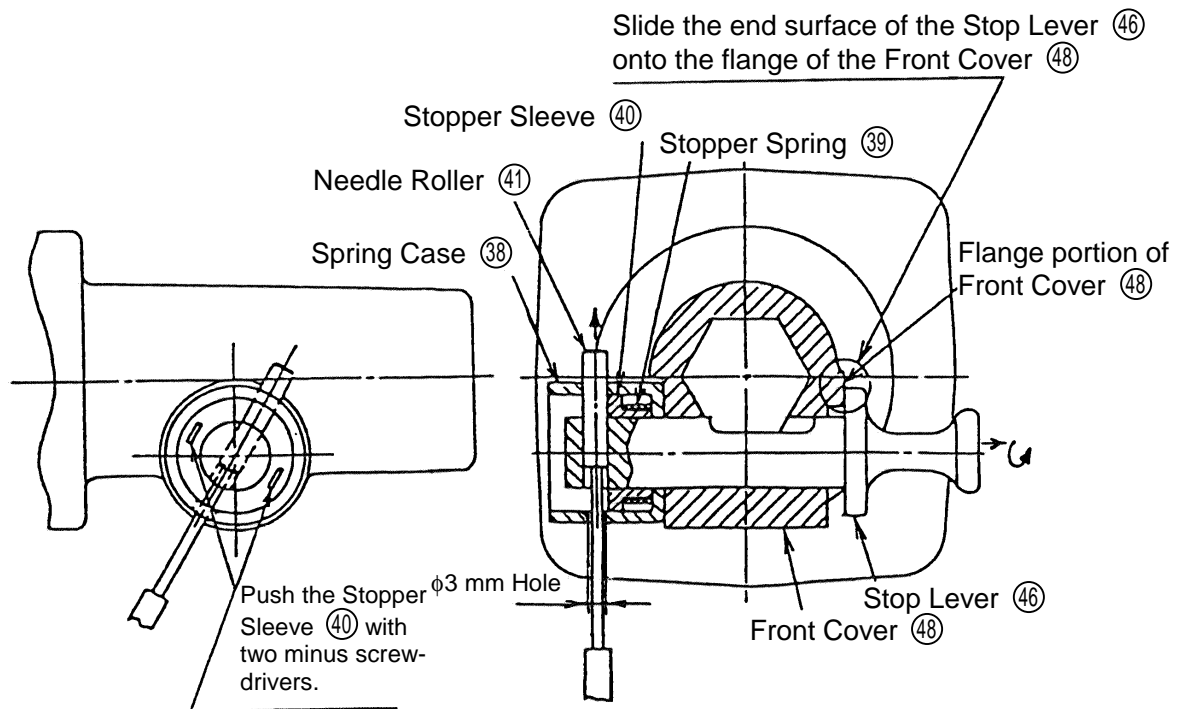
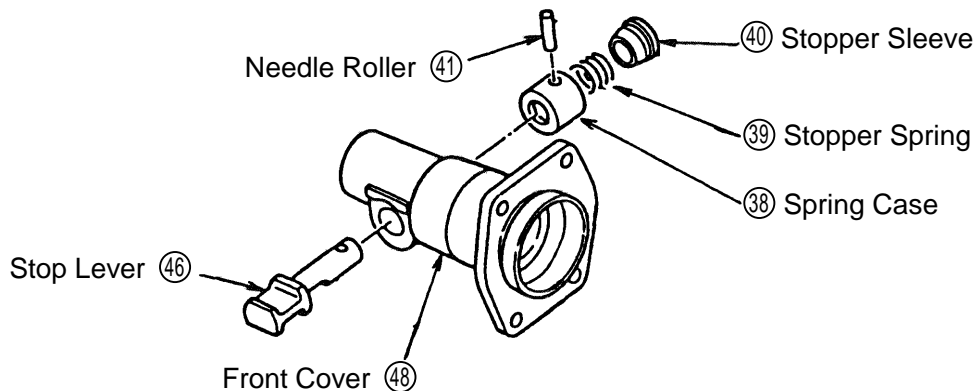

Fig. 6
Fig. 8
Disassembly procedures are illustrated in Fig. 6. Pull the Stop Lever (46) outward in the direction indicated by the arrow, and turn it slightly so that its end surface comes to rest on the flange portion of the Front Cover (48). Next, turn the Spring Case (38) so that the hole of the Spring Case (38) is aligned with the Needle Roller (41). Push in the Stopper Sleeve (40) with two minus screwdrivers to compress the Stopper Spring (39), and insert a steel rod (less than 3 mm [0.118"] in diameter) into the 3 mm (0.118") diameter hole of the Spring Case (38) to push out the Needle Roller (41). The Stop Lever (46), the Stopper Sleeve (40) and the Stopper Spring (39) can then be taken off.
Coat grease (Molub Alloy #777-1, Code No. 971042, is recommended) on the shaft portion of the Stop Lever (46), and reassemble it by referring to Fig. 8 above and Fig. 6 in paragraph 1-1-1.